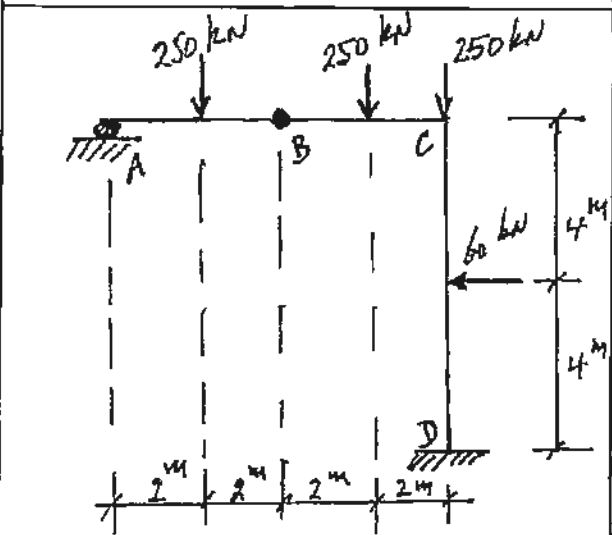

FIGURE A3
- A3. The determinate steel frame ABCD, Figure A3, is constructed with a hinge (bolted) at B. For the loads shown, design the steel beam ABC.
- B2. The determinate frame ABCD shown in Figure A3, is to be constructed in reinforced concrete. Design the column CD, and sketch the reinforcement details.